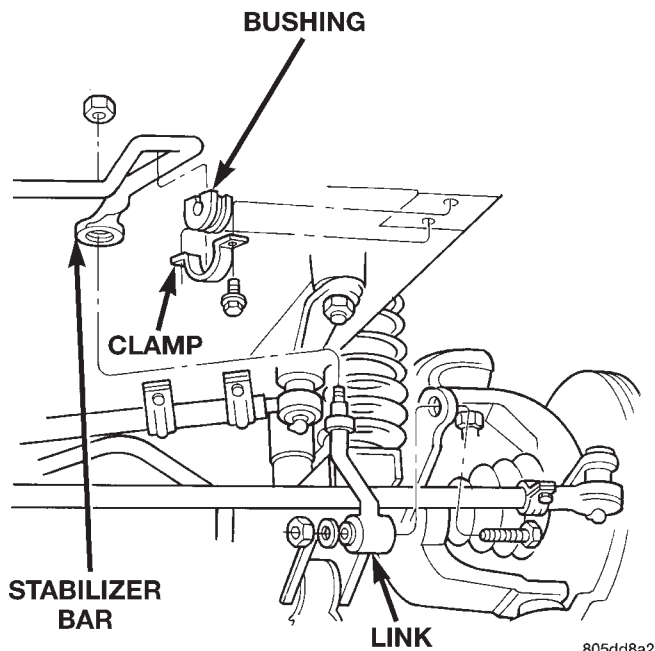

Fig. 7 Stabilizer Bar
(1) Raise and support the vehicle.
(2) Remove upper link bolts (Fig. 7) and separate links from the stabilizer bar with Remover MB-990635.
(3) Remove the stabilizer bar clamps bolts from the frame rails and remove the stabilizer bar.
(4) Remove the stabilizer bar link nuts from the axle brackets (Fig. 7).